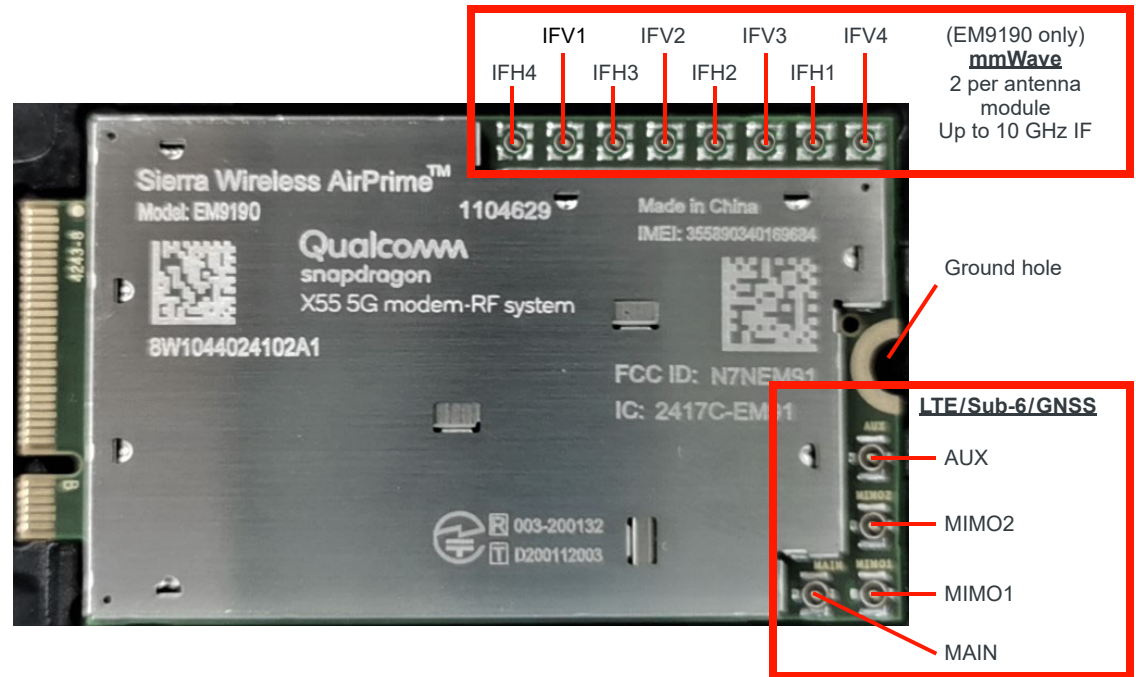

Figure 4-1: Module RF Connectors
- Connect to system ground using the ground hole shown in Figure 4-1 on page 41.